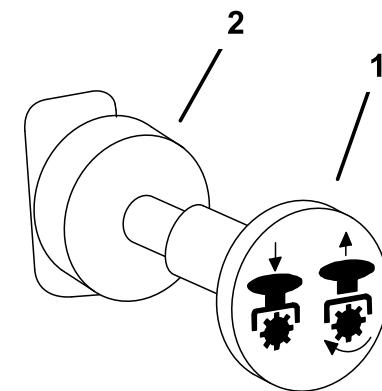

Figure 16
1. Disengage the PTO, move the motion control levers to the neutral locked position and set the parking brake (Figure 16).
- Pull out on the power take off (PTO) switch to engage it (Figure 16).
To disengage, push the PTO switch to the off position (Figure 16).